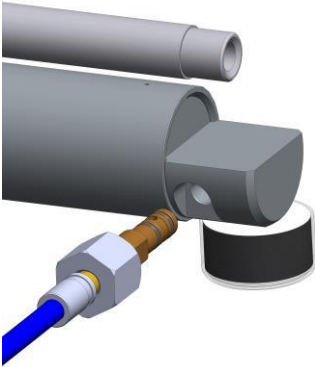

Fig. 7 – Charging the tank.
3. Fill the airgun with compressed air (Fig. 7) until the desired level.